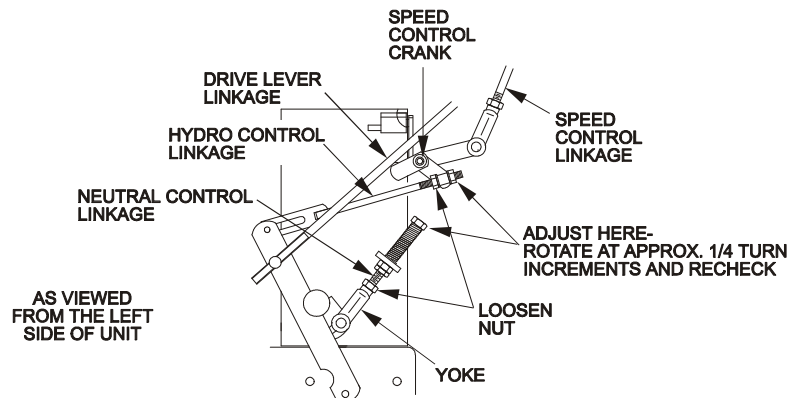

FIGURE 18
- Move the speed control lever (located on the console) to the full forward position and check the orientation of the tabs on the ends of the speed control crank (Figure 18). These tabs should be pointing straight down at the 6 o'clock position or slightly forward. Adjust the threaded yoke at the bottom of the speed control linkage (See Figure 18) until the tabs are positioned correctly.
4. Loosen the nut against the neutral control linkage yoke as shown in Figure 18.
2. Loosen the front nut on **left** hydro control linkage as shown in Figure 18. Turn the rear control linkage adjusting nut counter-clockwise until wheel rotates forward. Turn the rear nut of left control linkage clockwise 1/4 of a turn at a time, stopping to move the speed control forward and back to neutral, until left wheel stops rotating forward.